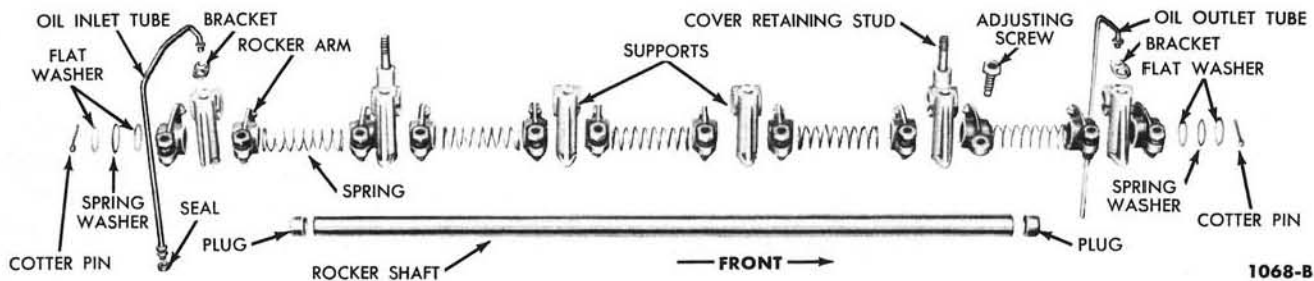

FIG. 16—Valve Rocker Arm Shaft Assembly
4. Install the rocker arms, supports, and springs (Fig. 16). Install the remaining flat washers with the spring washer between them, and install the cotter pin.